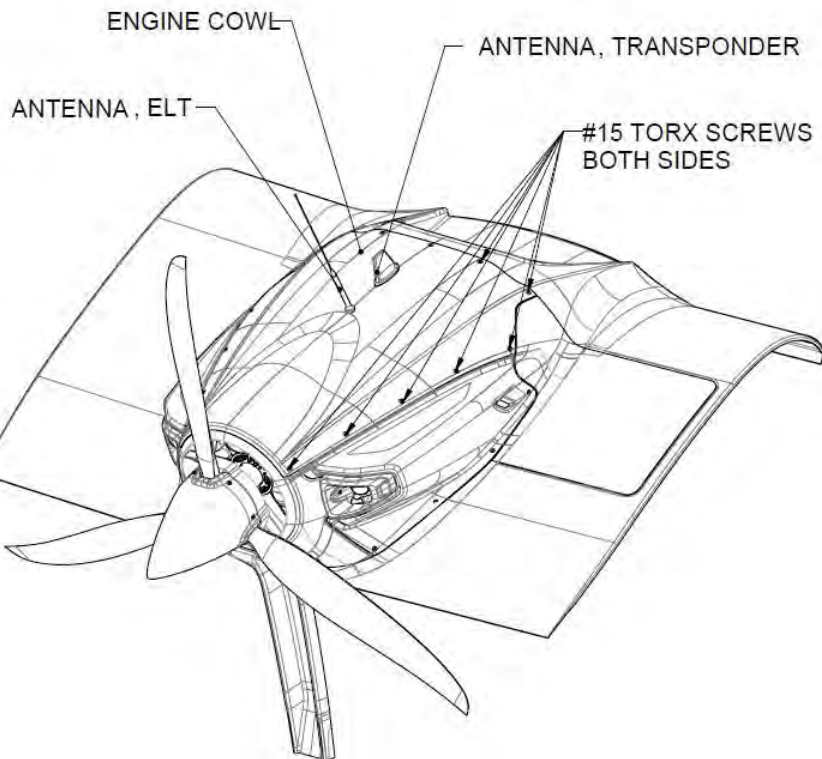

FIGURE 17-4
1. Release 16 1/4-turn fasteners from top engine cowl using a #15 Torx driver. (See Figure 17-4.)